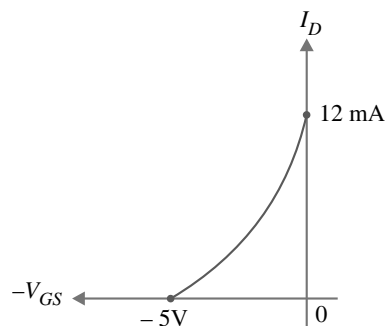

Fig. 17.18
**Example 17.2.** Fig. 17.18 shows the transfer characteristic curve of an  $n$ -channel JFET. Write the equation for drain current.
**Solution.** Referring to the transfer characteristic curve in Fig. 17.18, we have,